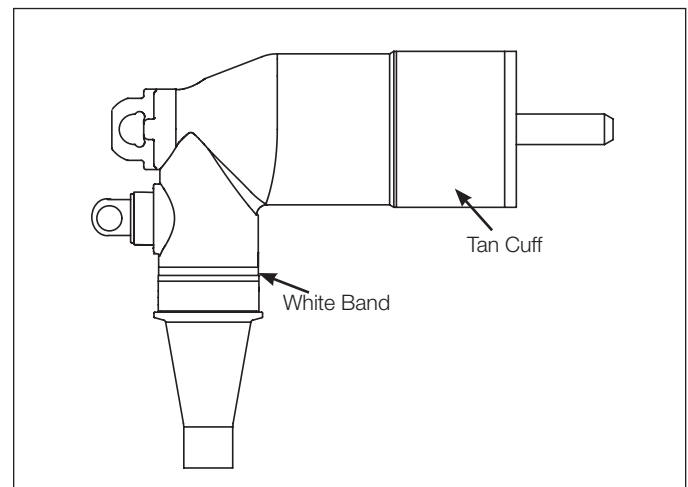

Figure 3.
- Place “tan” cuff over existing “purple” cuff as shown in Figure 3.